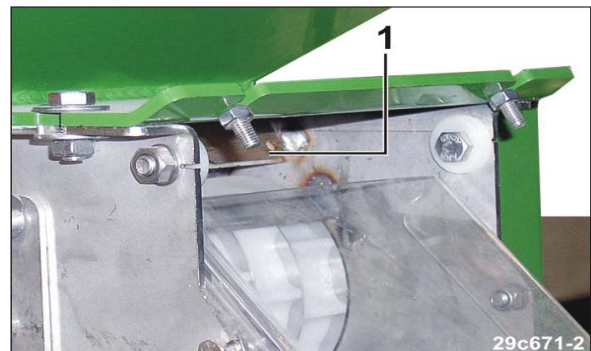

Fig. 176
- 5.2 Push the shutter (Fig. 176/1) into the metering unit up to the stop.